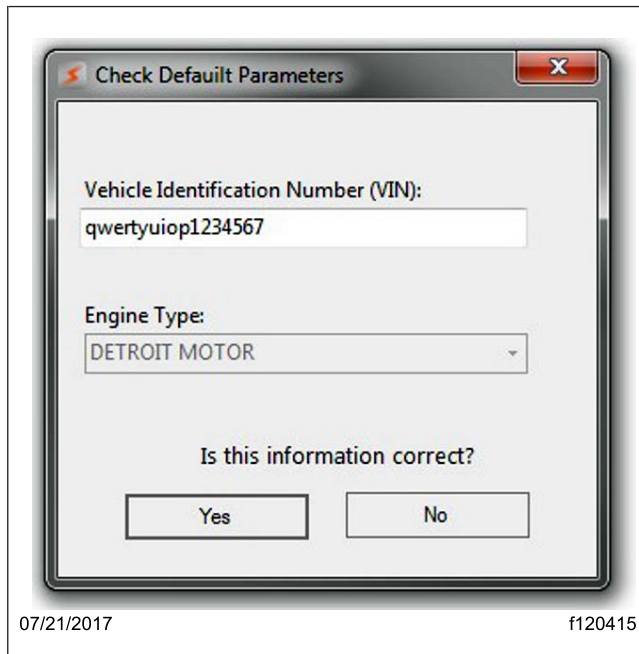

Fig. 5, Check Default Parameters Window
8. Once the process is complete, the parameter's values appear in the "Check Default Parameters" window. See Fig. 5.